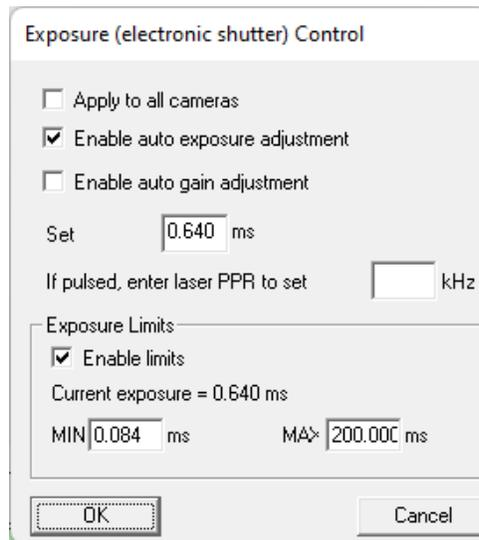

Figure 6.6: The Exposure Control dialog box is used to disable Auto-exposure.
4. Disable Auto-exposure in the Exposure Control dialog (Fig. 6.6) which is accessed by right-clicking the exposure time box (Fig. 6.5) and set an appropriate **Exposure time** as discussed earlier in section 6 by using the scroll bar slider in the green exposure time box.